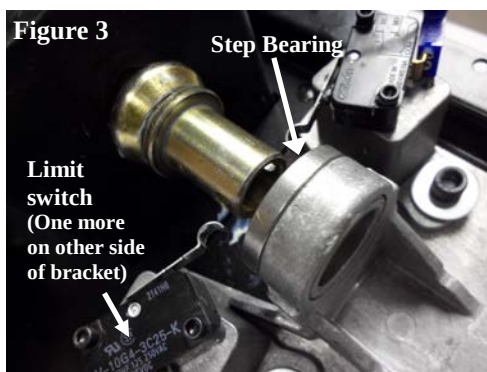

Figure 3
- 6) With the drive nut/Acme screw assembly pushed back, remove step bearing (Figure 3).